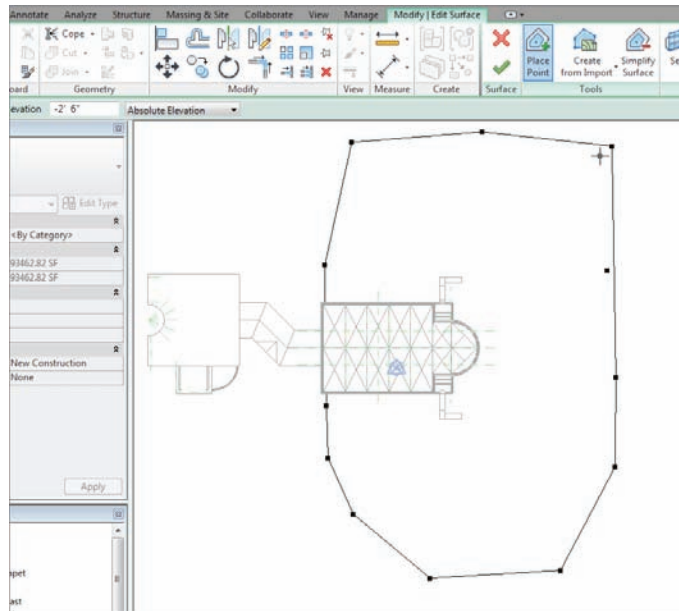

FIGURE 18.2 Adding the first contours
6. Pick points in a pattern to the right half of the building, as shown in Figure 18.2.